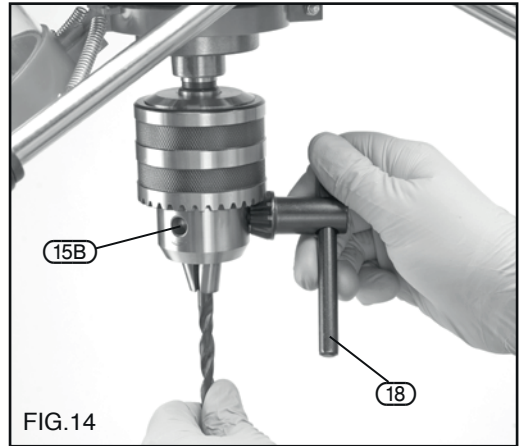

FIG. 14
9.1 SPINDLE SPEED ADJUSTMENT - FIGS. 14 - 17
9.2 DRILL BIT INSTALLATION/ REPLACEMENT - FIG. 14